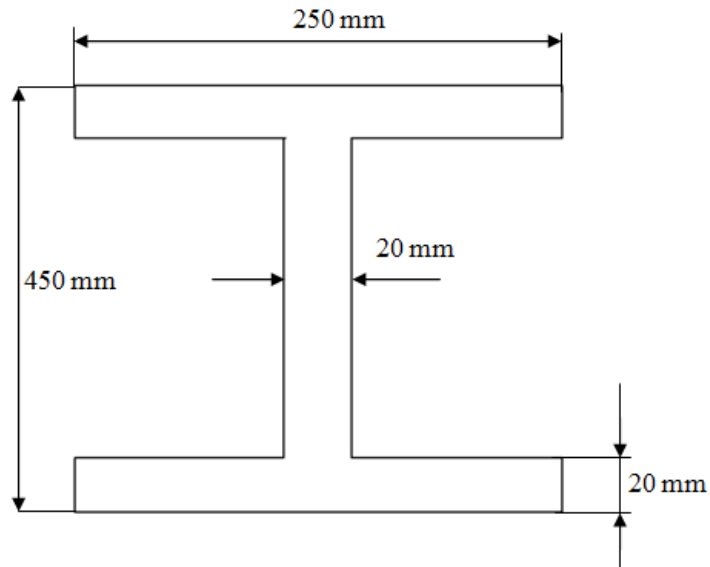

Figure Q3 (d)
d) An I-section steel beam has dimensions as shown in Figure Q3 (d), if the maximum allowable normal stress in the steel is 150 MPa. Determine the greatest bending moment the beam can support. (6 marks)